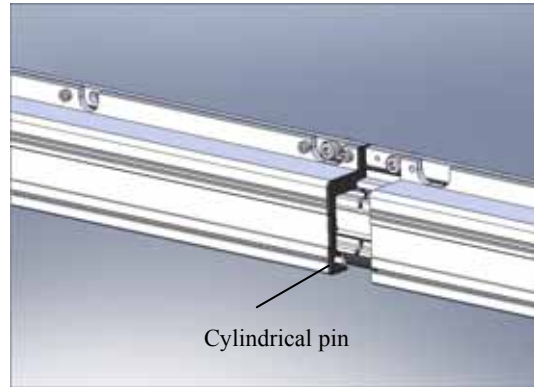

Fig. 5.14 Installation of body cover
**(9) Installation of scale body cover:** Align the body cover with both ends of the scale casing, and secure it with M3×8 screws in the same way as shown in Fig. 5.14.